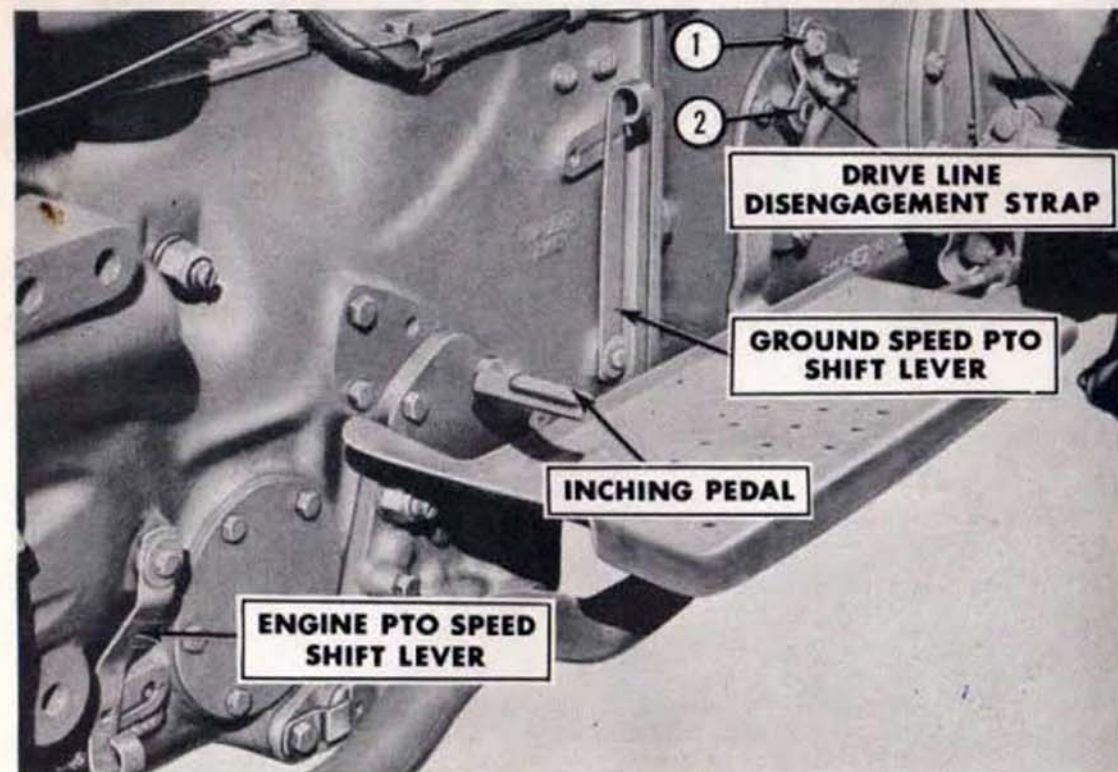

Figure 5
On Select-O-Speed Transmission equipped tractors a foot operated inching pedal, Figure 5, allows you to ease into implements when attaching them, and can be used for quick disengagement of power to the rear wheels.
Two engine PTO speeds are available on the Model 681-D and 881-D tractors. When the PTO speed shift lever, Figure 5, is in the forward position the PTO shaft turns at the standard A.S.A.E. speed of 540 rpm. When the speed shift lever is in the rear position the shaft turns at 1000 rpm. Both PTO speeds are obtainable at 1750 engine rpm.
The proportional ground speed PTO is available on the Model 681-D and 881-D tractors. Move the ground speed PTO shift lever, Figure 5, to the forward position to place the shaft in operation. The shift lever must be in the disengaged or "Off" position in order to pull out the PTO control knob.
To tow or push a Select-O-Speed Transmission equipped tractor, when the engine is not running, the drive line must be disengaged from the rear axle. This is necessary as the Select-O-Speed Transmission shifts automatically to park (P) whenever the engine stops. Operation of the disengagement strap, Figure 5, is described on Page 19 of this manual.
To disengage the transmission, disconnect the traction coupling as follows: Remove the nut (1) Figure 5, and strap; turn the strap over and reinstall on the shaft (2), then rotate the shaft approximately 60° to the rear. Rock the tractor to make sure the transmission is disengaged, and then replace the strap and reinstall the nut to assure that the traction coupling remains disengaged.